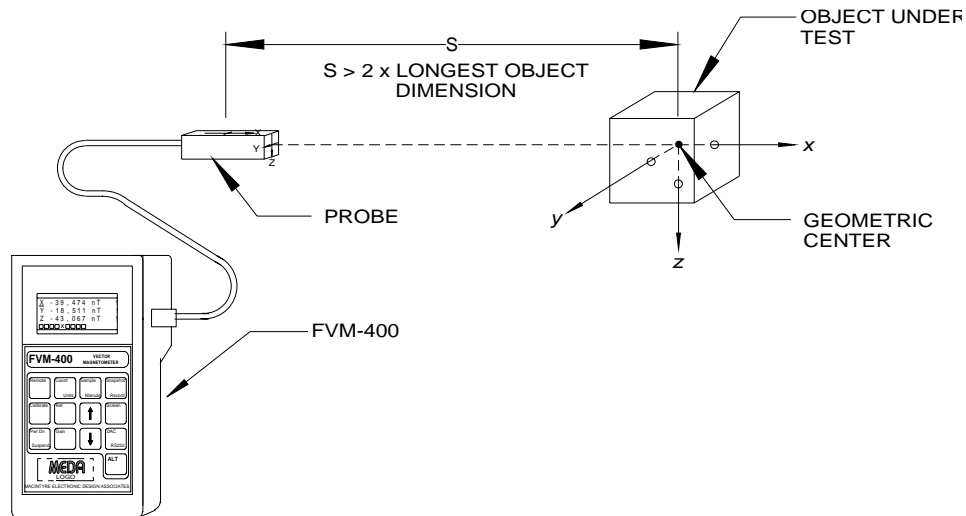

Figure 7 Starting position when measuring the magnetic moments of an object
7. Place the object along the projection of the probe's X axis so that the distance, between the center of the object and the crosshairs indicating the center of the X axis sensor, is twice the length of the X dimension of the object (see Fig. 7 below).
8. Rotate the object so that the X, Y and Z axes of the probe and the object coincide. The probe and object axes arrows should be pointing in the same direction (see Fig. 7).